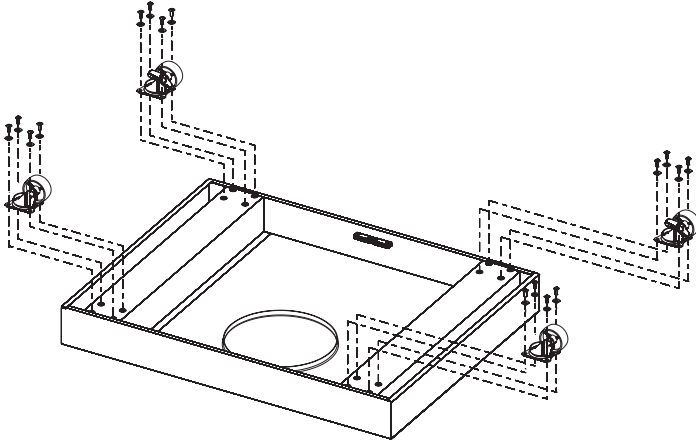

Figure 1
2. Attach two locking casters to front of cart bottom with four (4) lock washers, and 3/4" screws per locking caster. See Figure 1.
3. Attach two (2) non-lock casters to back of cart bottom with four (4) washers, and 3/4" screws per caster. See Figure 1.